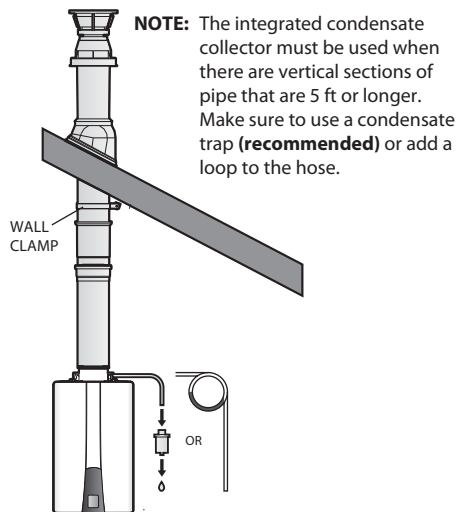

Figure 11
5. Attach the supplied wall clamp around the termination and ensure the Vertical Termination is positioned upright and level before tightening and securing the clamp to a rigid surface. **(Fig.11&12)**